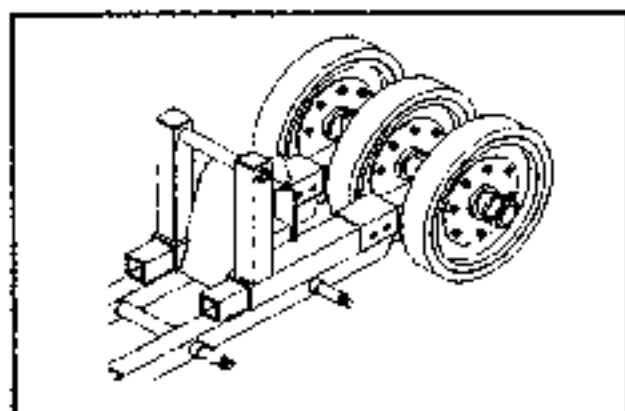

FIG 64
2) Slide the tension tubes into the carriage frame as shown in Fig 64.